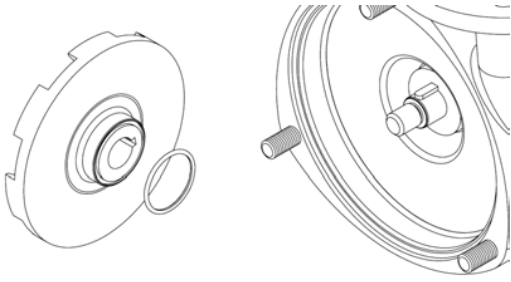

Figure 15
5. Before installing the impeller lubricate the impeller o-ring so it will stay in the impeller o-ring while installing the impeller (SB Blenders only). Slide impeller onto the shaft and over the key. Push impeller against the seal driver or shim (SB Blenders). See figure 15.